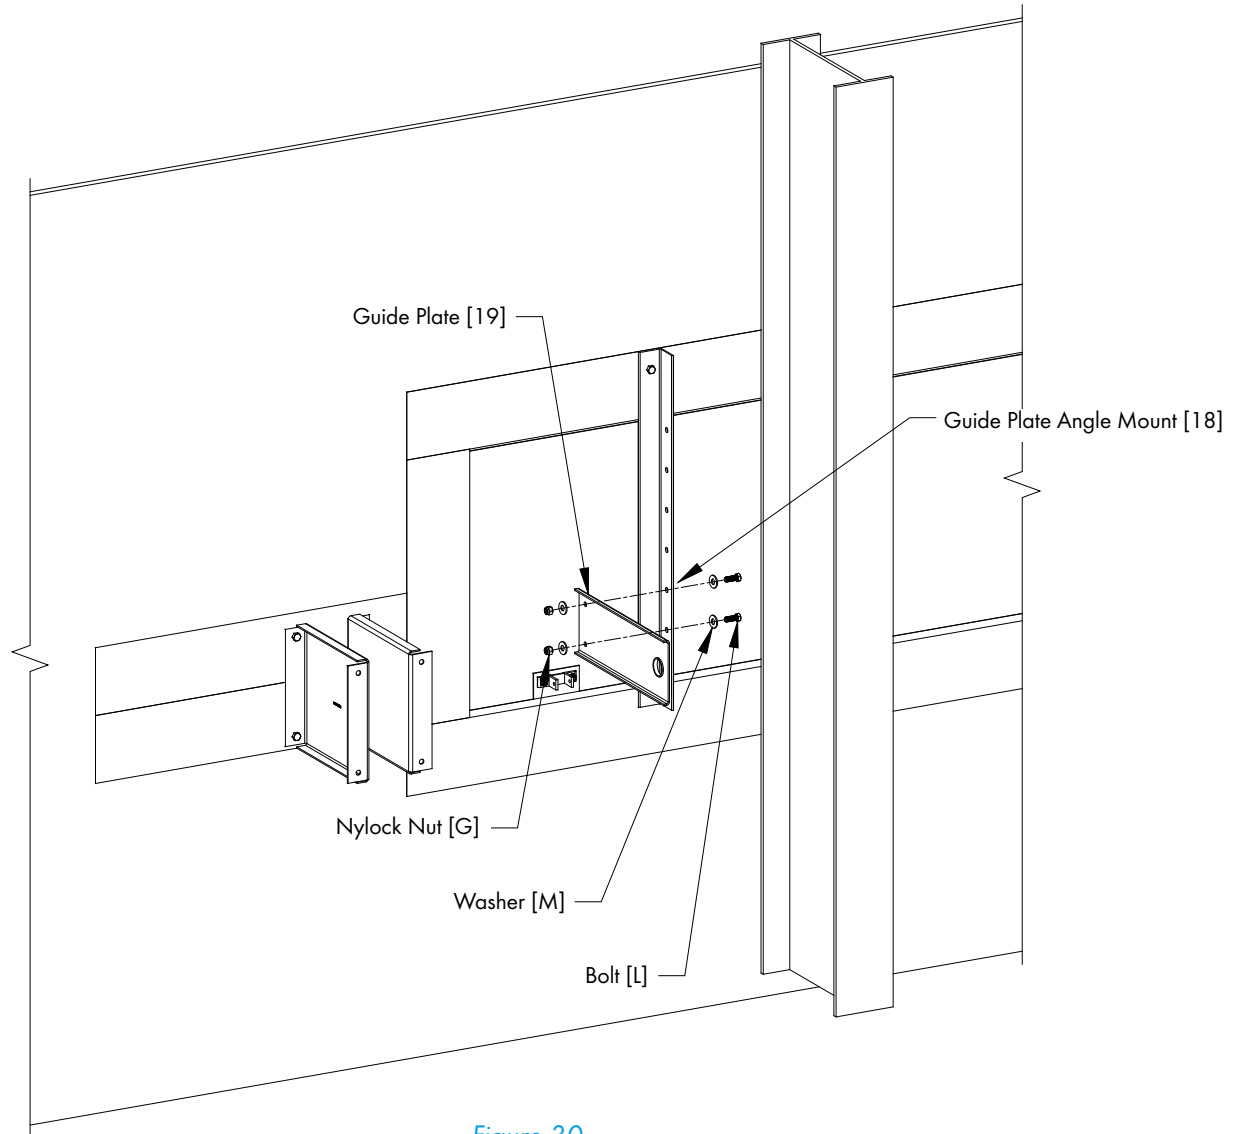

Figure 30
Secure (1) Guide Plate [19] to each Guide Plate Angle Mount [18] using (2) Bolts [L], (4) Washers [M] and (2) Nylock Nuts [G] in the lower pair of holes in Angle Mount. See Figure 30.